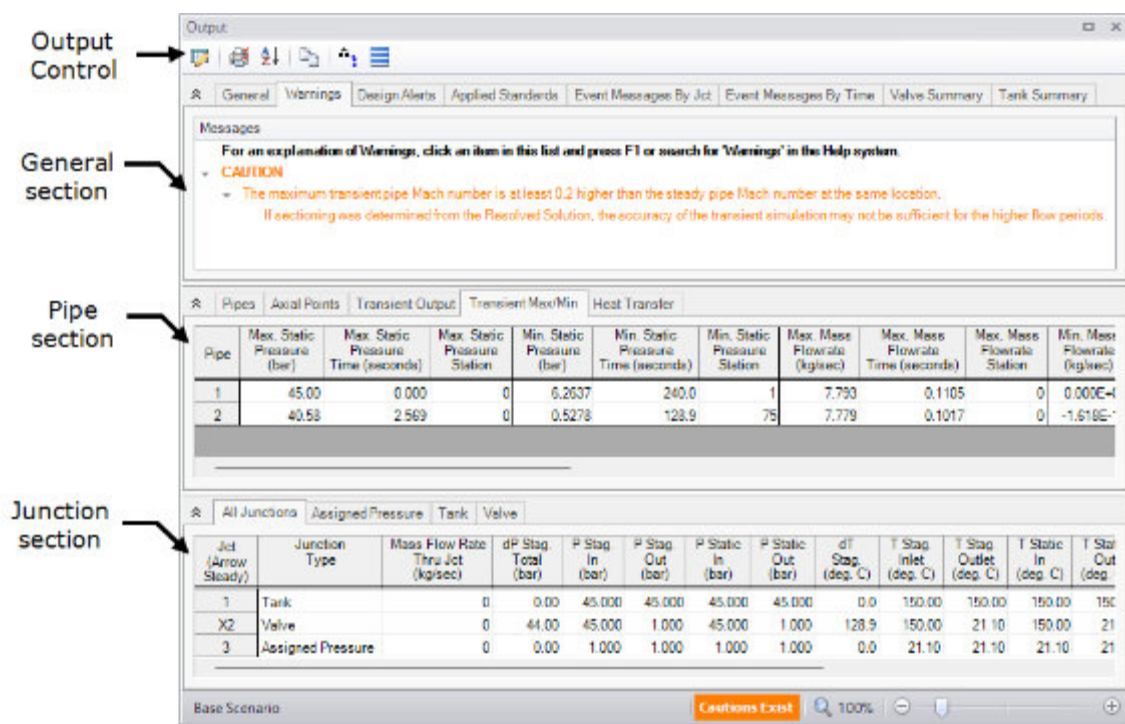
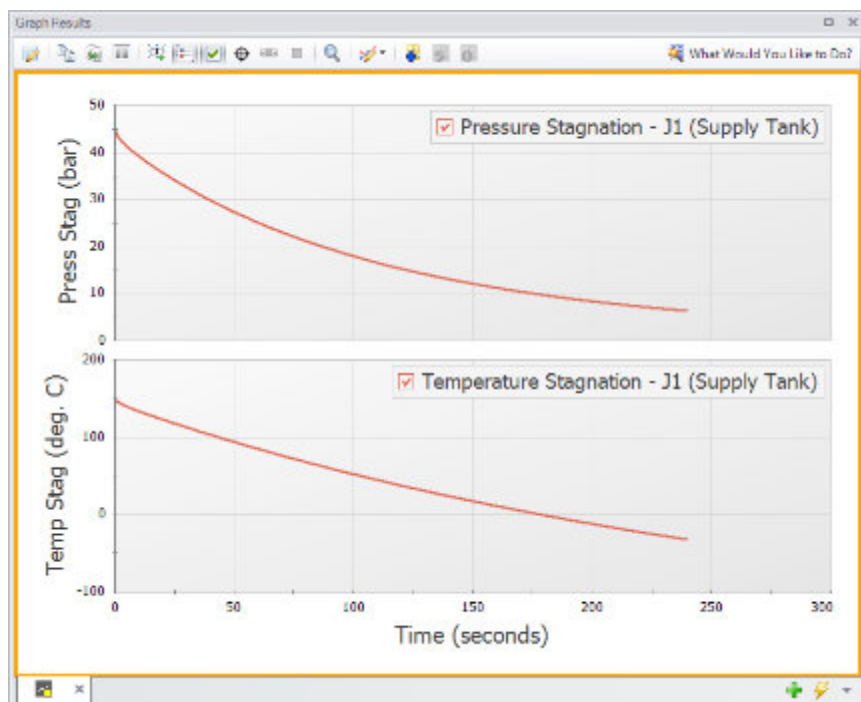

Figure 2.20 The Output window displays steady-state and transient output in tabular form
Figure 2.31 The Transient Junction graph shows how variables within a junction change over time, such as with the temperature and pressure of Tank J1
The Output window (Figure 2.20) is similar in structure to the Model Data window. Three areas are shown, and you can minimize or enlarge each section by clicking the arrow next to the General, Pipes, and All Junctions tabs. The items displayed in the tabs can be customized with the Output Control window, which can be opened by clicking the spreadsheet with a pencil icon from the Common Toolbar or from the Tools dropdown menu.
The Output window allows you to review both the steady-state and transient results. The Pipes tab, All Junctions tab, and any specific junction tabs in the Junction section (such as Tank, Valve, etc.) show the steady-state results. A summary of the maximum and minimum transient results for each pipe is given on the Transient Max/Min tab in the Pipe section and is the active tab displayed in Figure 2.20. You can review the solutions for each time step (i.e., a time history) on the Transient Output tab shown in Figure 2.21. Note that in order to display all pipe stations the model will need to be set to save data for all stations. By default, xStream saves all data points. This can be changed in the Pipe Sectioning and Output panel.
- ▶ **Click the Generate button.** These graphs show the tank pressure and temperature initially decrease quickly, then decrease more slowly as time progresses. This change in slope is due to a decreasing pressure gradient between the tank and the atmosphere as the tank is emptied, which slows the mass flow rate out of the tank (Figure 2.31).
In xStream, sectioning plays an important role in model accuracy. Due to how the MOC operates, accuracy increases with the number of sections you have in the model. To illustrate this, the model was re-run with a Minimum Number of Sections Per Pipe of 6 instead of 1. Comparing Figure 2.31 to Figure 2.38, values such as the temperature and pressure for Tank J1 remain similar with the increase in the number of sections. However, values such as the maximum temperature reached in Pipe P2 (Figure 2.20 and Figure 2.36), changed substantially. This value increased from 919 deg. C to 1203 deg. C. This change in the maximum temperature indicates that the difference in sectioning has significant implications if your interest is in the conditions in the blowdown pipe. It should be noted that changing the Minimum Number of Sections Per Pipe from 1 to 6 caused the computation time of the model to increase from a couple minutes to a couple hours. Therefore, it is of critical importance to balance accuracy and computation time when using xStream.